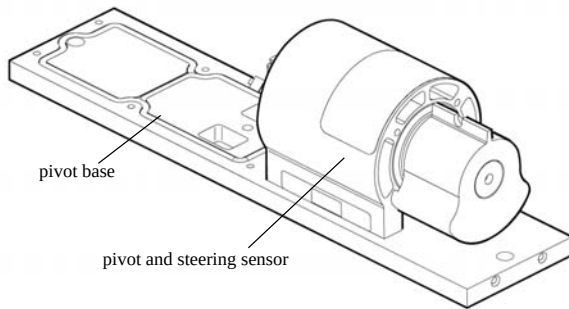

Figure 9-16: Pivot Base Assembly Components
The pivot base assembly consists of the pivot base, gaskets (2), and pivot assembly (pivot and steering sensor), as shown in Figure 9-16.
6. Use T-30 6-lobe wrench to remove (2) screws that anchor base plate to chassis (see Figure 9-16).